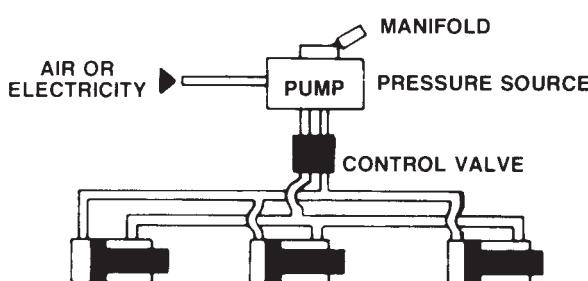

FIGURE 2
The application in Figure 2 represents a typical set-up using a control valve and multiple double-acting cylinders (one double-acting cylinder may also be used).
3. Attach all hoses and wiring required to complete the set-up. Refer to Figure 2 for valve port information.